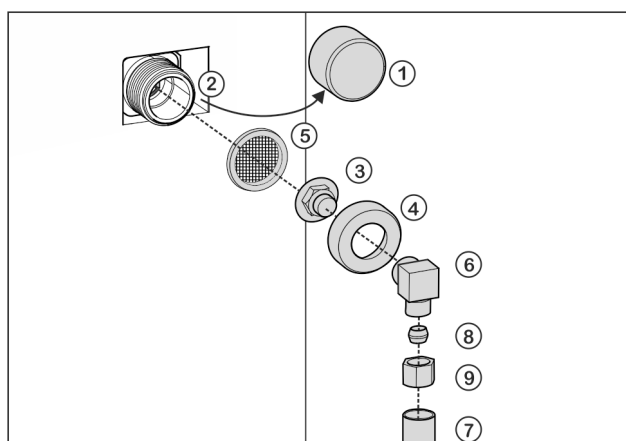

Fig. 24
- ▶ Remove cap Fig. 24 (1) from solenoid valve Fig. 24 (2).
- ▶ Insert coupler Fig. 24 (3) into union nut Fig. 24 (4).
- ▶ Insert the filter *Fig. 24 (5)* with the recess pointing down towards the coupler *Fig. 24 (3)*.
- ▶ Screw the union nut *Fig. 24 (4)* by hand onto the thread of the solenoid valve *Fig. 24 (2)* until it is firmly in place.
- ▶ Screw on angle piece *Fig. 24 (6)*.
- ▶ Connect the water pipe *Fig. 24 (7)* (e. g. 1/4" OD copper pipe) with the clamp ring *Fig. 24 (8)* and nut *Fig. 24 (9)* to the elbow connector *Fig. 24 (6)*.
- ▶ If necessary: Fasten the water pipe *Fig. 24 (7)* to the housing with the guide clip.
- ▶ Put angle piece *Fig. 24 (6)* to one side.
- ▶ Connect the water pipe *Fig. 24 (7)* (e. g. 1/4" OD copper pipe) with the clamp ring *Fig. 24 (8)* and nut *Fig. 24 (9)* to the coupler *Fig. 24 (3)*.